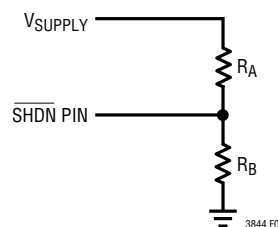

Figure 3. Undervoltage Lockout Circuit
When laying out the printed circuit board, the following checklist should be used to ensure proper operation. These items are illustrated graphically in the layout diagram of Figure 3.
5. Locate the V_{CC} and BOOST capacitors in close proximity to the IC. These capacitors carry the MOSFET driver's high peak currents. Place the small signal components away from high frequency switching nodes (BOOST, SW and TG). In the layout shown in Figure 3, place all the small signal components on one side of the IC and all the power components on the other. This helps to keep the signal and power grounds separate.